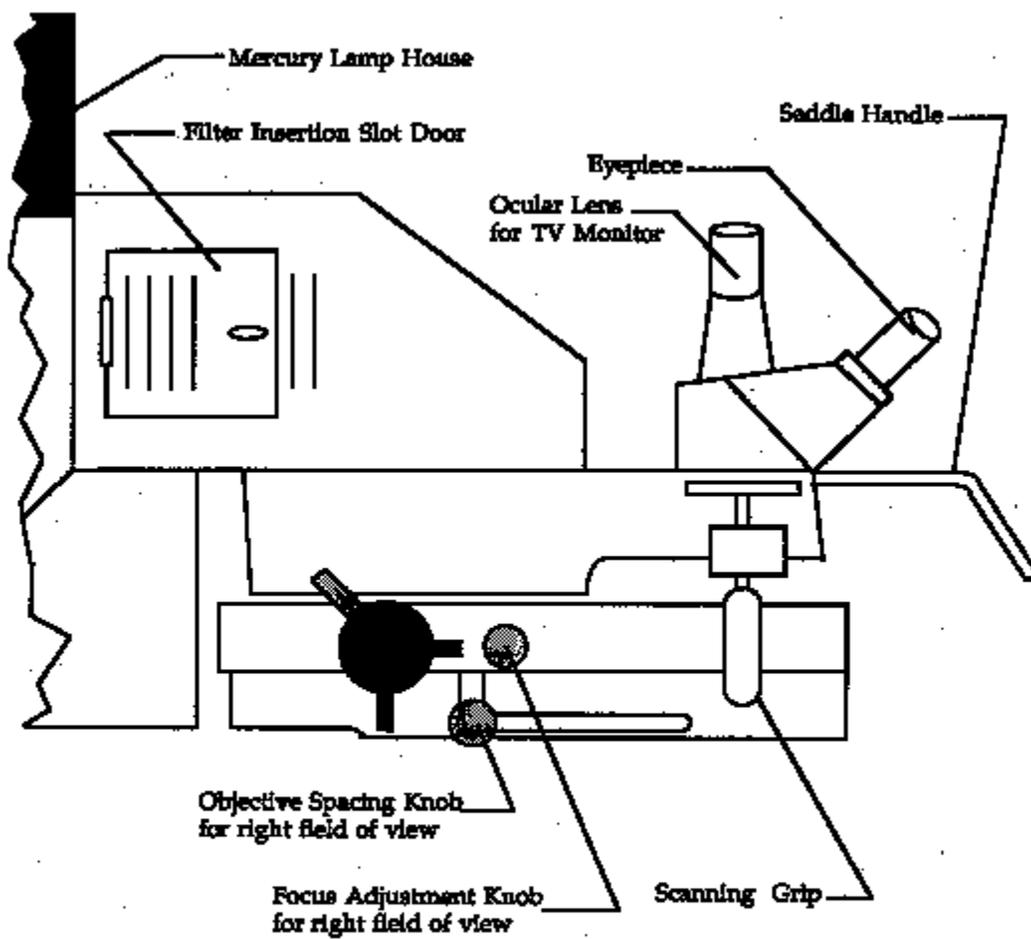

Figure 3: LEFT VIEW
- **h.** Use the Scanning Grip (Fig. 3) to find the alignment structures (usually crosses). You will use these structures later to align wafers to the mask.
- **a.** Attached to the frame of the scanning grip (Fig. 3) is a small horizontal grid and vertical pointer. Use the scanning grip to move the pointer to the approximate center of the grid. This centers the exposure lens over the wafer.